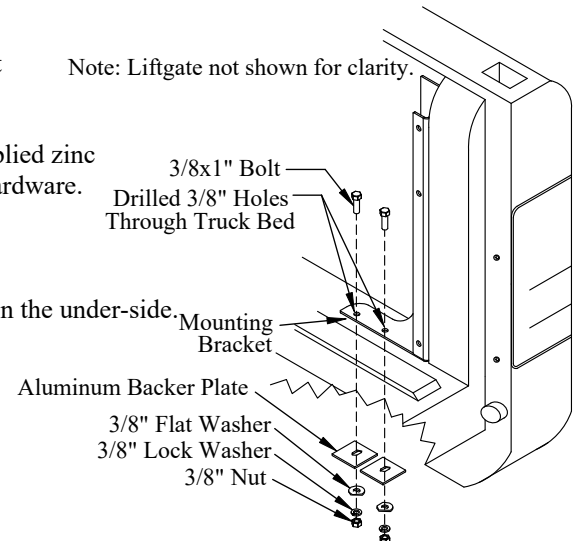

Figure 9: Mounting bracket and backer plates.
8. **Drill** two (2) 3/8" holes into the truck bed floor using two holes in the bracket as a guide (Figure 9).
9. **Fasten** each bracket to the truck box using the supplied (Figure 9):